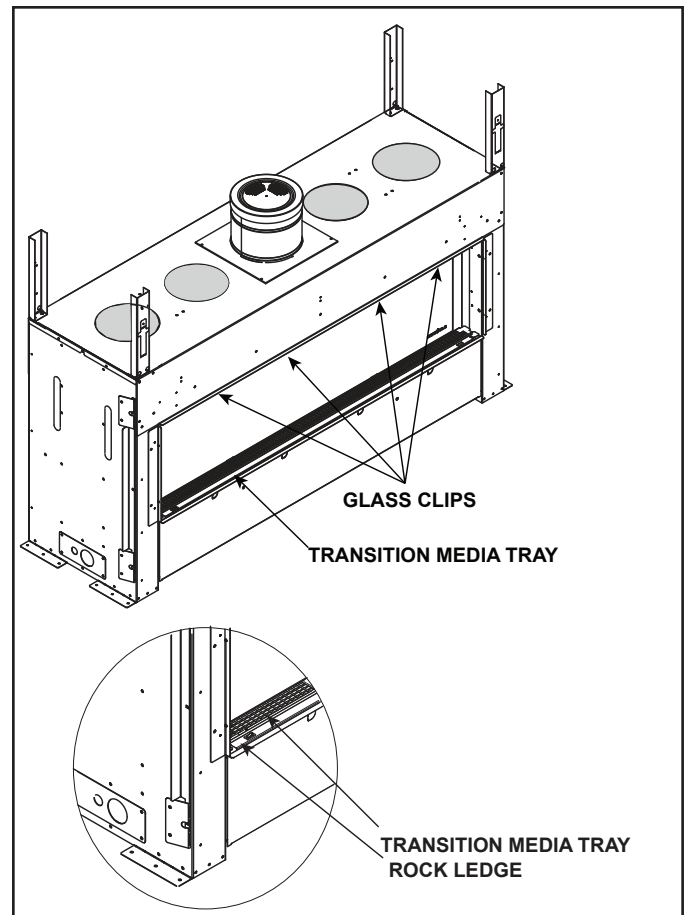

Figure 11.4 Location of Glass Clips and Transition Media Tray
1. Remove the transition media from the appliance. Lift the transition media tray out of appliance. The transition media tray fits tightly, lift carefully. See Figure 11.4.
2. Locate the glass clips that are on the upper edge of the glass frame of the appliance. See Figure 11.4.